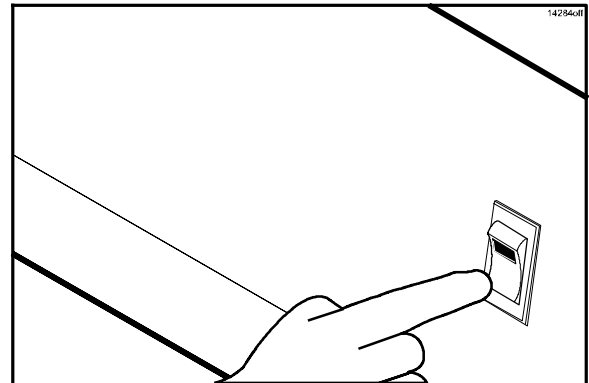

Figure 115
51. Place the fan interlock switch in the OFF position. (See Figure 115.)